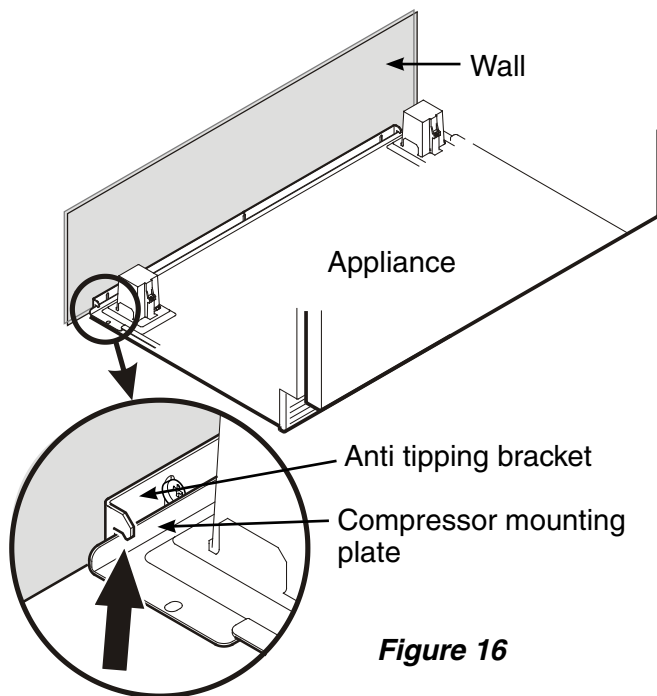

Figure 16
4. Push the appliance slowly to the back wall until the compressor mounting plate makes contact with the anti-tipping bracket (**Figure 16**).
To prevent the appliance from tipping forward the compressor mounting plate must have contact with the anti tipping bracket (Figure 16**).**